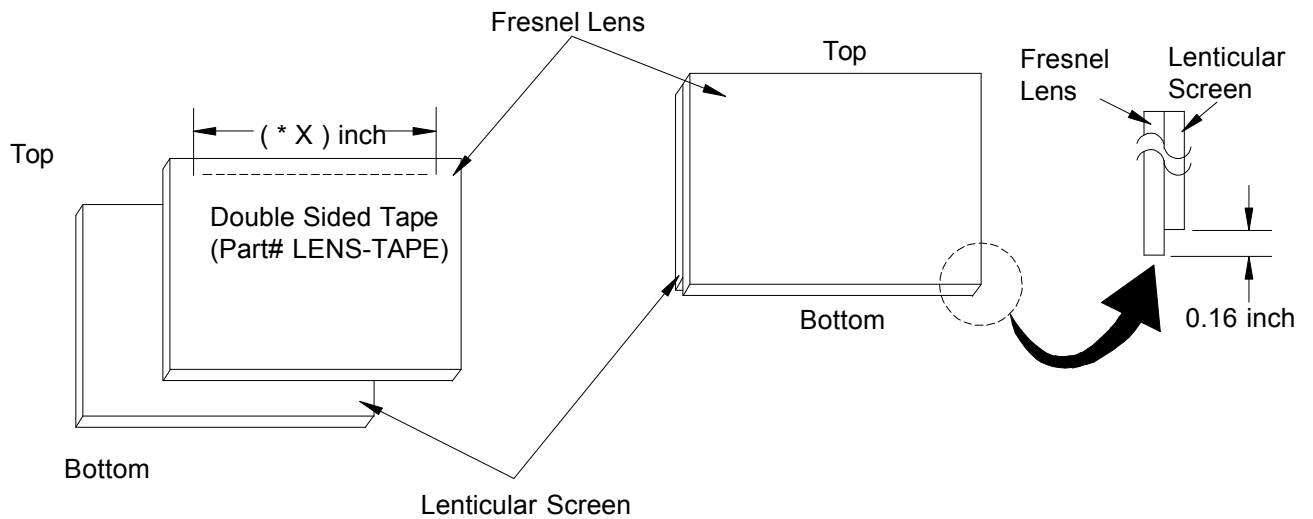

Figure 2-2
1. Apply double coated tape (Part # LENS-TAPE) along the top front edge of the Fresnel Lens as shown in *Figure 2-2*. Refer to *Table A* for proper tape length.
2. Place the Fresnel Lens on top of the Lenticular Screen and apply pressure at the top edge to bond them together as shown in *Figure 2-2*.